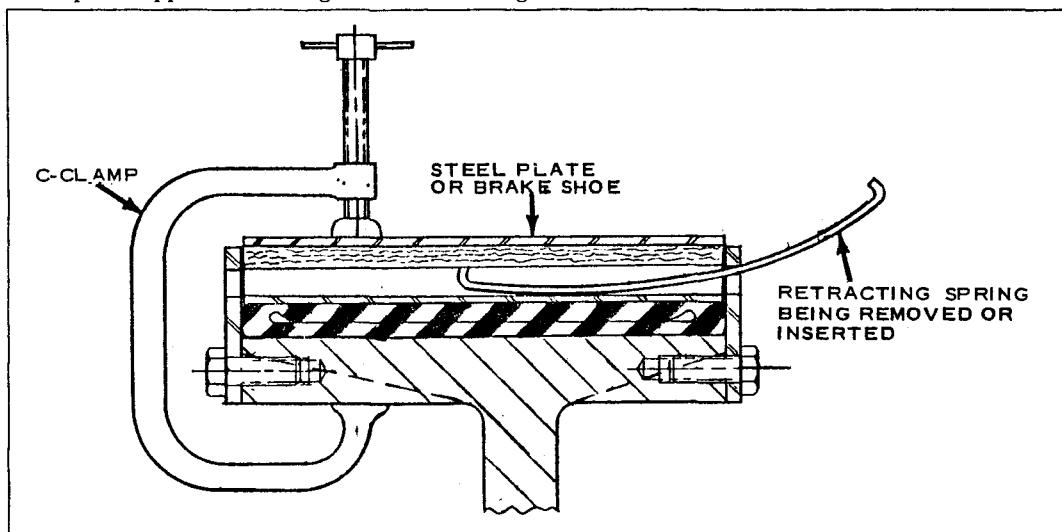

Figure 1.
5.1.2 Place a screwdriver against the hook of the retracting spring (1) and, with a sharp blow, disengage the spring from the frame (6). Drive the springs through the brake and out of the assembly. On brakes of seven-in. width, this method may damage the lining blocks. If it is desired to salvage the lining blocks of seven-in. wide brakes, use a curved plate (an old or extra brake shoe will serve) and a C-clamp to support the lining as shown in Figure 1.
5.5.6.2 On 7 in. wide brakes of all dia., it is suggested that the method shown in Figure 1 be used to install retracting springs to avoid lining damage. Install shields in accordance with paragraph 5.5.6.1.